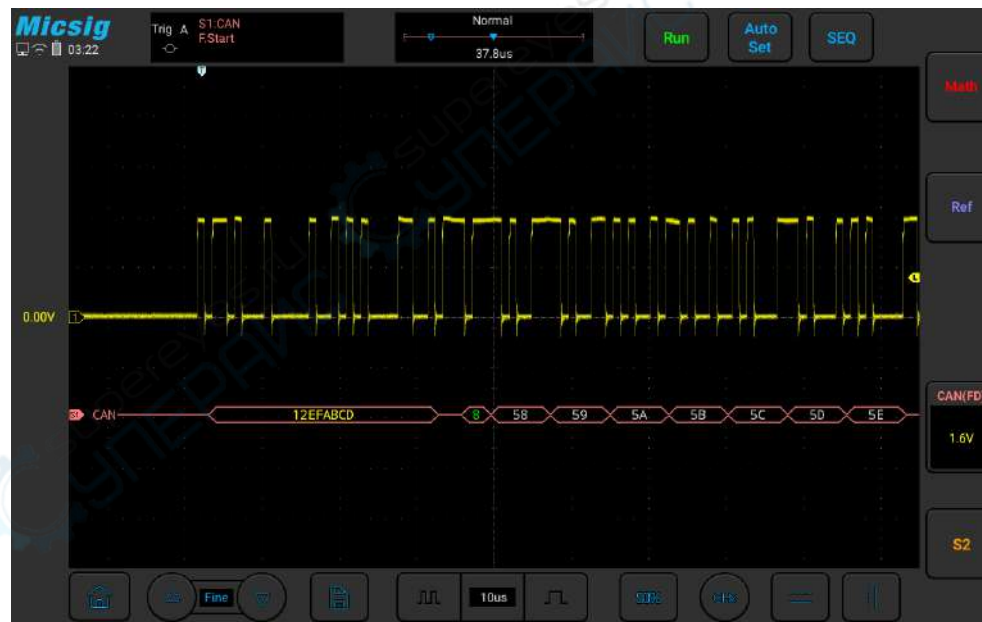

Figure 11-16 CAN Graphic Interface
- (1) Tap S1 to open the decode channel, and click S1 again to open the bus configuration menu;
- (2) Select the bus type as “CAN”, and then click “Ch1”, “Idle High” and “1Mb/s”. After setting, click the blank area to close the menu;
- (3) Open the trigger mode configuration menu and click “Frame Start”;
- (4) Adjust the threshold level according to the signal amplitude; the CAN trigger graphic interface is shown in Figure 11-16: